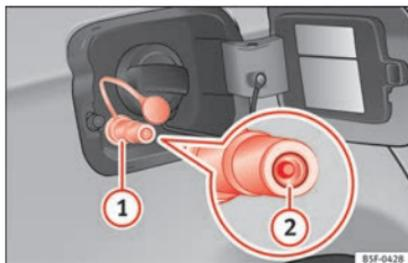

Fig. 173 Tank flap open: gas filler mouth (1), filler mouth retainer (2)
- Remove the plug from the gas filler mouth  Fig. 173 (1).